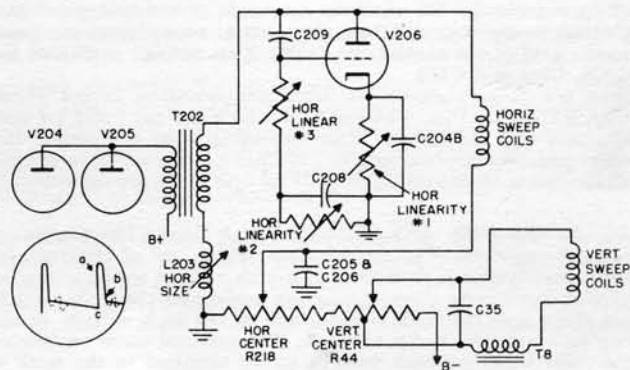
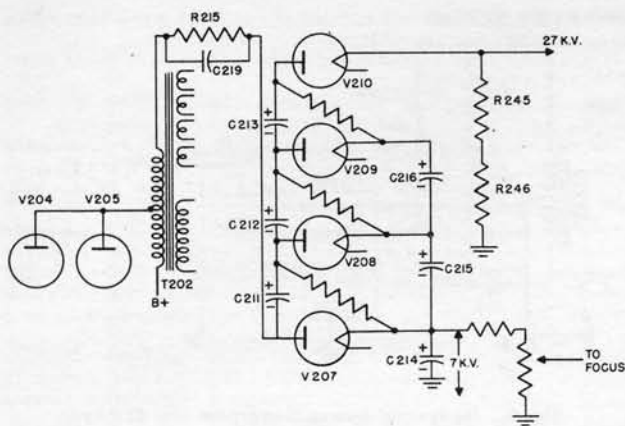

Fig. 6. Horizontal Sweep Output
Fig. 8. High Voltage Power Supply
**8. HORIZONTAL SWEEP OUTPUT (SEE FIGURE 6)**—The horizontal sawtooth output from the cathode follower tube, V15B, is amplified by two Type 6BG6 tubes, V204 and V205, connected in parallel. The output of these tubes is coupled to the horizontal deflection coils through an impedance matching transformer, T202. An oscillatory voltage, as shown in dotted line in the waveshape at the lower left of Figure 6, which results from the rapid retrace in the transformer, T202, is removed by the damping tube, V206. This tube is a dual triode, Type 6AS7G, and by its use the transient may be dampened, linearity controlled, and the positive overshoot voltage retained for use in the high voltage supply. The linearity of the waveshape is controlled by varying the grid and cathode circuit voltages on the tube V206 by means of three potentiometers, R209, R211 and R212. The horizontal size is controlled by the adjustable iron core inductance L203, which is in series with the output to the horizontal deflection coils.
**10. HIGH VOLTAGE SUPPLY (SEE FIGURE 8)**—The high voltage is derived by making use of the inductive "kick" voltage produced during retrace in the horizontal sweep output transformer, T202. This "kick" voltage is shown in the waveshape shown as "c to b" in Figure 6. This voltage is produced in the primary and is further increased by auto transformer action by adding an additional winding to the transformer which connects to the plate of V207, the first high voltage rectifier tube. The rectifier tubes V207, V208, V209 and V210 are Type IB3GT (8016) which derive their filament voltage from the horizontal sweep transformer, T202, by means of four single turn loops around the transformer. The tubes are used in a voltage quadrupling circuit to provide the necessary 27 kilovolts for use on the high voltage anode of the picture tube. Each section contributes about 7 kilovolts to the final output voltage. A high voltage bleeder, consisting of two 1000 megohm resistors in series, is connected across the output to dissipate any charge after the receiver is turned off.